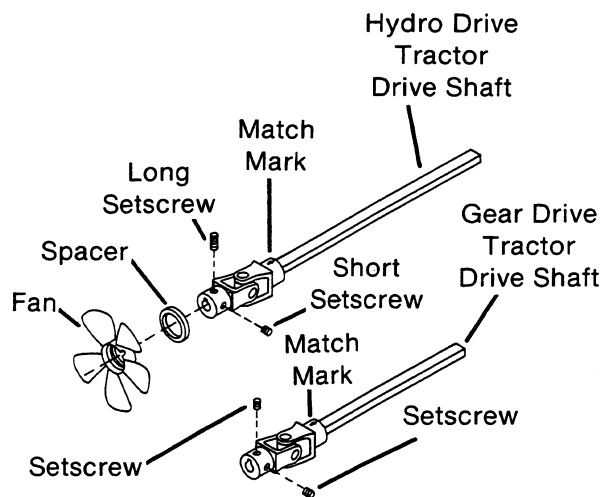

FIG. 5
- J. (Gear Drive Tractors Only) Loosen two setscrews on rear of drive shaft. (Fig. 5)
(Hydro Drive Tractors Only) Remove one long setscrew thru notch in fan hub on rear of drive shaft. Rotate fan to expose second short setscrew, loosen setscrew. (Fig. 5)
NOTE: Drive shaft is a balanced assembly and **must** be reassembled the same way it was removed. Match marks (arrows) are stamped into both front and rear universal joints, if chalk marks are not made, to insure proper reassembly. (Fig. 5)